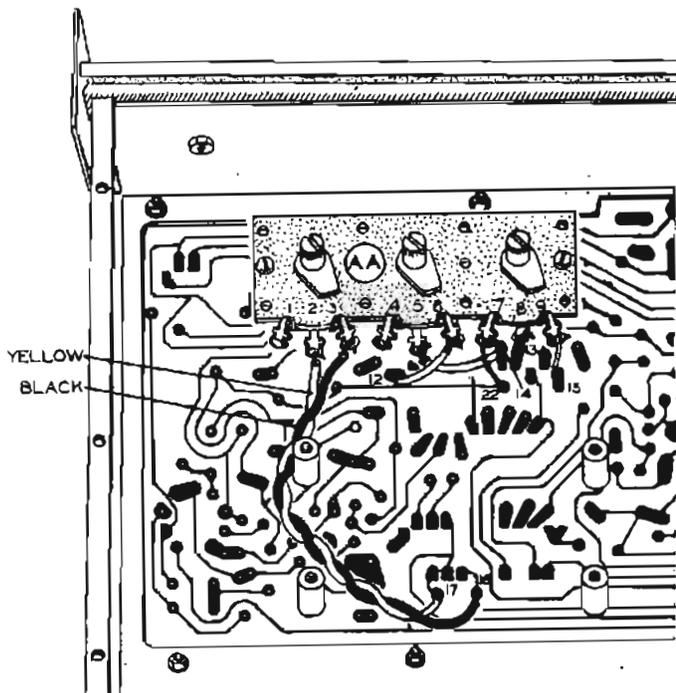

Figure 17
- () As shown in Figure 17, install a triple 250 K Ω control (#13-3) at AA, on the indicated pair of phenolic spacers. Use 3-48 screws.
- () Connect the wire from hole 22 to lug 7 (NS) of control AA.